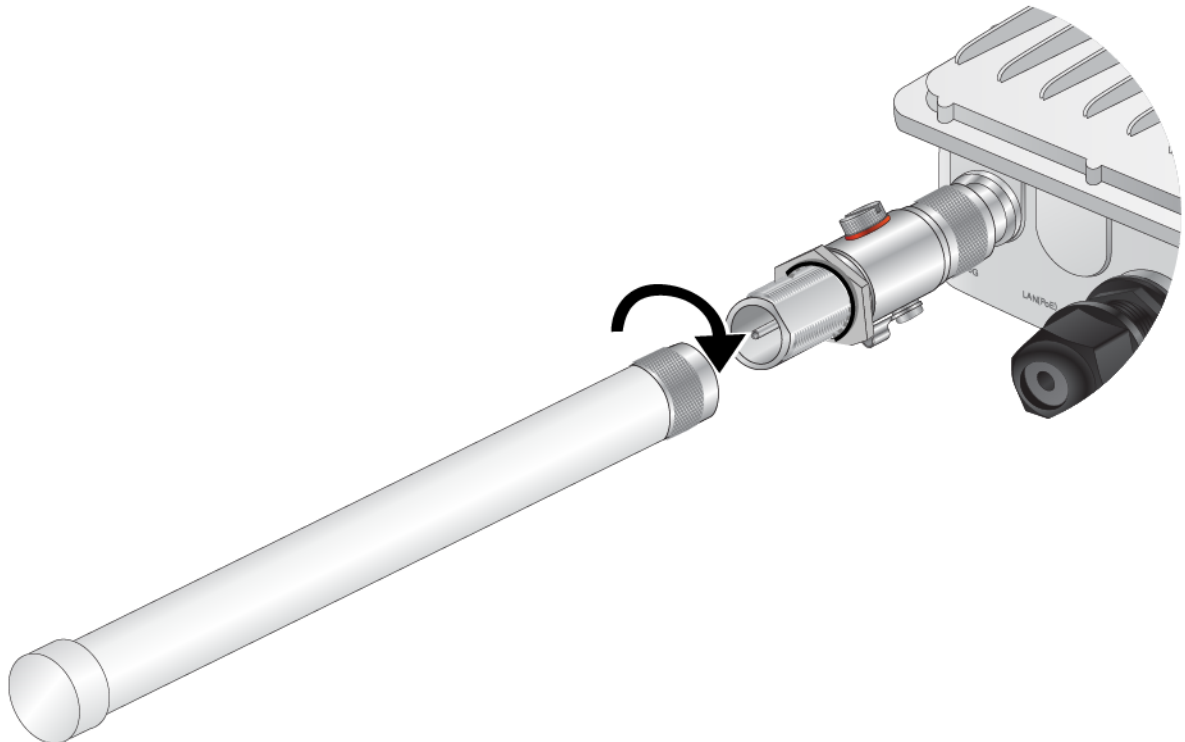

Figure 18. Installing an Antenna on a Surge Protector
5. Screw an antenna onto the surge protector. Refer to Figure 18.